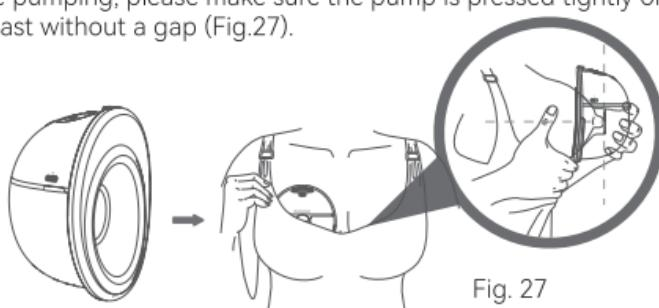

Fig. 27
- a. Before pumping, please make sure the pump is pressed tightly on your breast without a gap (Fig.27).